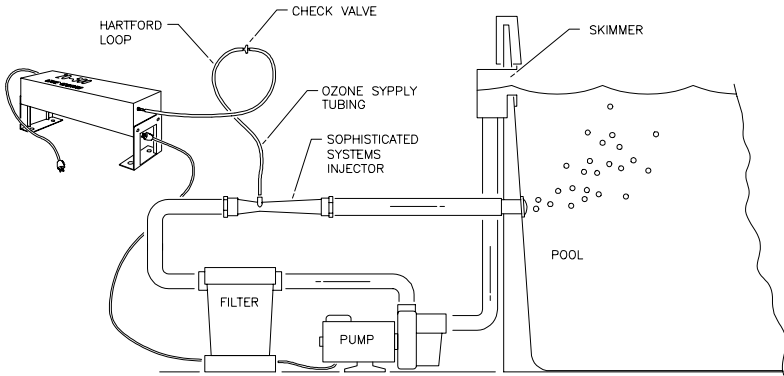
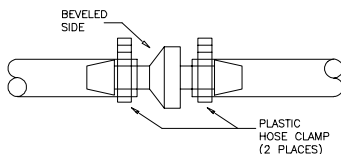

Figure 3: Installation Schematic for 9-0513 Injector Assembly
Figure 8: Check Valve
6. A pressure wire connector is provided on the outside of the unit to permit connection to a minimum No. 8 AWG (8.4 mm²) solid bonding conductor between this point and any metal equipment, metal enclosures of electrical equipment, metal water pipe, or conduit within five (5) feet (1.5m) of the unit as needed to comply with local requirements. Install at least 5 feet (1.5m) from the inside wall of the pool and one foot above the maximum water level to prevent water from contacting electrical equipment using non-metallic tubing.
7. The ZO-500 must be installed in an outdoor location, or indoors in a forced air ventilated room, and installed so that the orientation is exactly as shown in Figure 3. Install to provide water drainage of generator to protect electrical components.
Find a suitable location to mount the DELZONE ZO-500. It cannot be accessible to anyone inside the pool and must be mounted in an upright position as shown in Figure 3.
The ZO-500 should be mounted **above** the water line if possible. If this is not possible, the ozone supply tubing **must** be routed above the water line with a Hartford Loop (water trap) (Figure 3) between the generator and the pool. In either case, the ozone supply check valve provided must be installed in the ozone supply tubing between the generator and the injector.
The **ozone supply tubing** is assembled with a short tubing section, a flowmeter and a long tubing section. Secure the end of the short section to the plastic hose connector on the injector with a supplied plastic hose clamp. (Figure 3, 6 or 7).
If the generator is mounted below the water line, the ozone supply tubing *must* be run from the generator to a point above the water line. A Hartford Loop *must* be used at this point. To make a Hartford Loop, simply coil the tubing into a complete circle about 6" diameter (Figure 3 or 4), and fasten it above the water line. The Hartford Loop will act as a water trap to prevent water from running back to the generator.
Locate the small plastic **ozone supply check valve** and install it into the long section of the ozone supply tubing by cutting the tubing and securing both ends of the check valve with plastic hose clamps as shown in Figure 8. The check valve should be installed between the generator and the Hartford loop (Figure 3 or 4). **Be sure that the beveled side of the check valve points in the direction of the injector.**
Note: For the 9-0513 Injector, slip the **air flow regulator** onto the tubing before connecting it to the ZO-500 (Figure 3). Connect the end of the tubing to the ZO-500 and secure it with another plastic hose clamp.